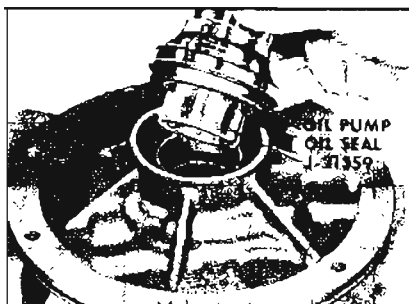

Figure 5-201
3. Using Installer J-21359 tap in new oil seal. See Figure 5-201.